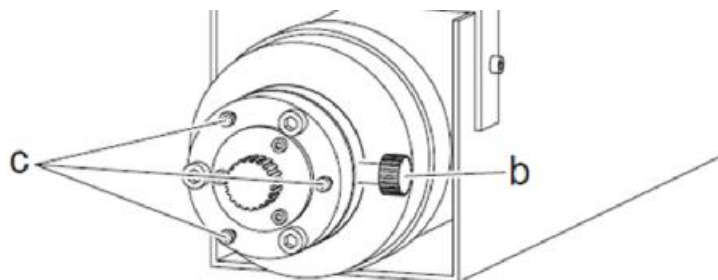
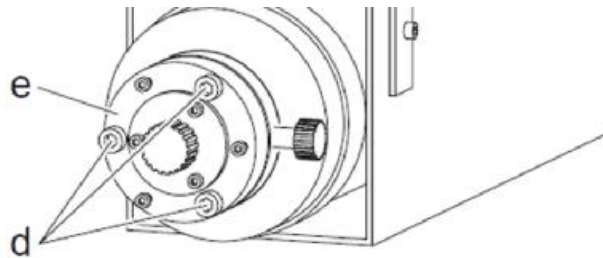

Figure 2: Screw for shutting the laser beam (b), locking screws (c)
Figure 3: Set screws (d), adjustment plate (e)
3. Maximize the intensity of the laser by turning the shutting screw (b, Figure 2).
6. Loose slightly locking screws (c, Figure 2) and set screws (d, Figure 3).
17. Regulate the laser intensity with the shutting screw (b, Figure 2) until only some red points are visible in the live view.